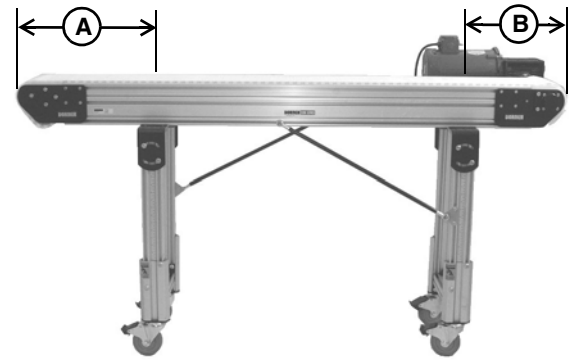

Figure 2
- “A” = 3 ft (914 mm) maximum (See **Figure 2**)
- “B” = 3 ft (914 mm) maximum (See **Figure 2**)